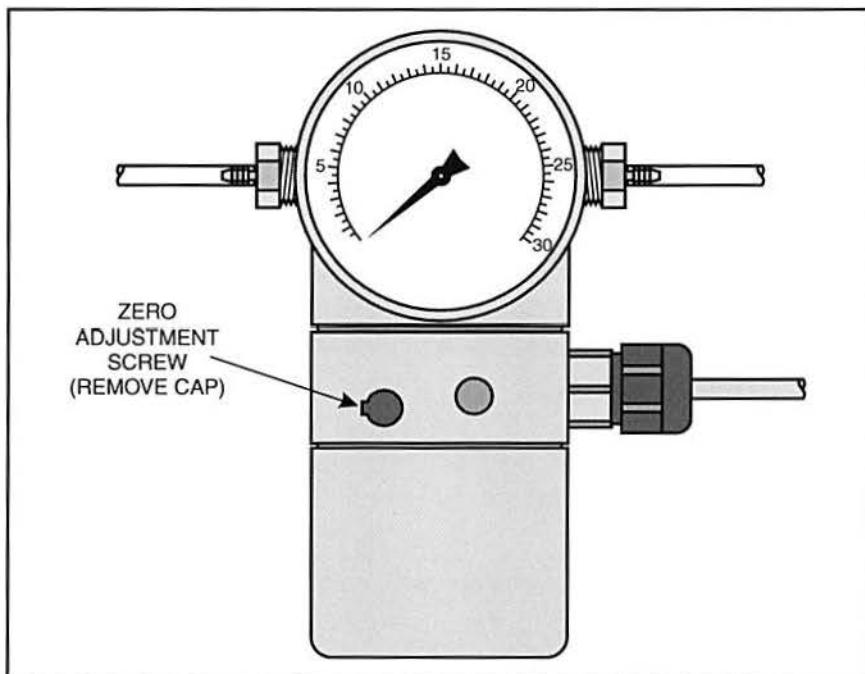

Figure 25. The Zero Adjustment Screw
- B. Locate the zero adjustment screw on the I/P converter, as shown in figure 25.